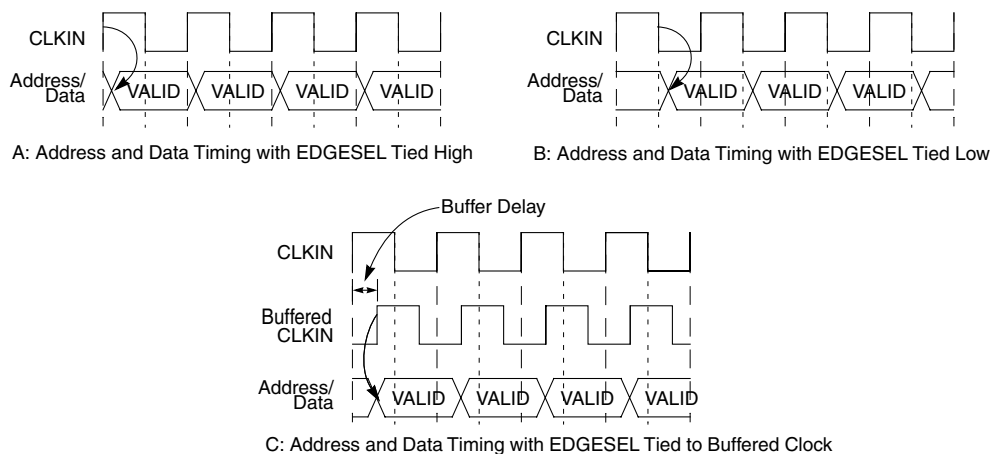

**Figure 11-14. Using EDGESEL to Change Signal Timing**
Figure 11-14 shows the output wave forms for the interface signals changing on the rising edge (A) and falling edge (B) of CLKIN as determined by whether EDGESEL is tied high or low. It also shows timing (C) with EDGESEL tied to buffered CLKIN.